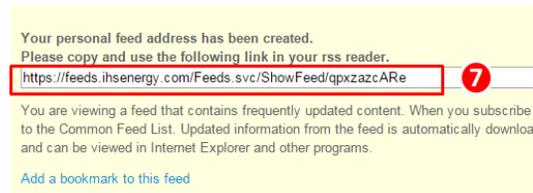

Fig 7-3: RSS Link
- (7) Copy the RSS link (See Fig 7-3).